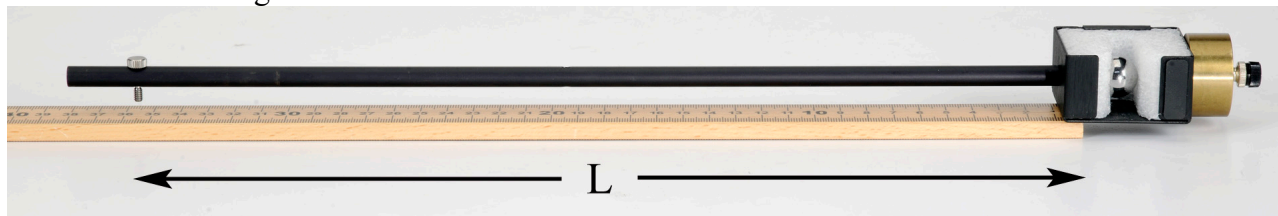

Figure 5: Finding the Center of Mass: Balance the pendulum on the end of the meter stick.
9. Remove the pendulum from the Rotary Motion Sensor, and balance it on a meterstick as shown in Figure 5. Note that the ball is still in the catcher!